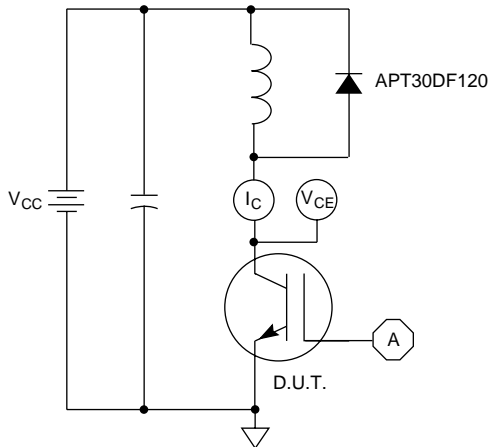

Figure 21, Inductive Switching Test Circuit
⑤  $E_{on2}$  is the clamped inductive turn-on energy that includes a commutating diode reverse recovery current in the IGBT turn-on switching loss. (See Figures 21, 22.)
⑥  $E_{off}$  is the clamped inductive turn-off energy measured in accordance with JEDEC standard JESD24-1. (See Figures 21, 23.)
⑦ Continuous current limited by package lead temperature.